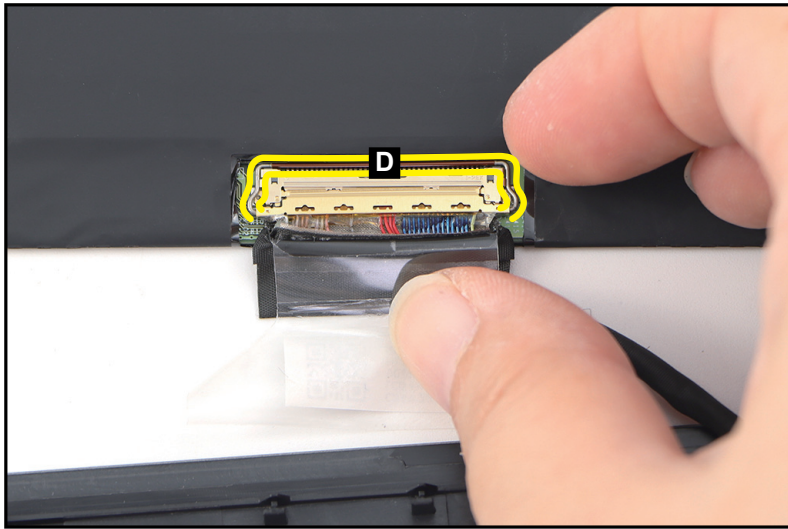

Figure 1-54. LCD Panel Removal
4. Lift the latch (D) securing the eDP cable (Figure 1-54).